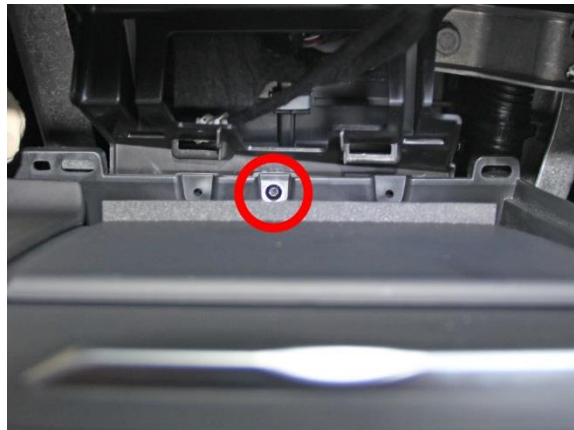

Figure 28. Screw securing the front of the center console
- p. Remove the screw that secures the front of the center console (Figure 28).